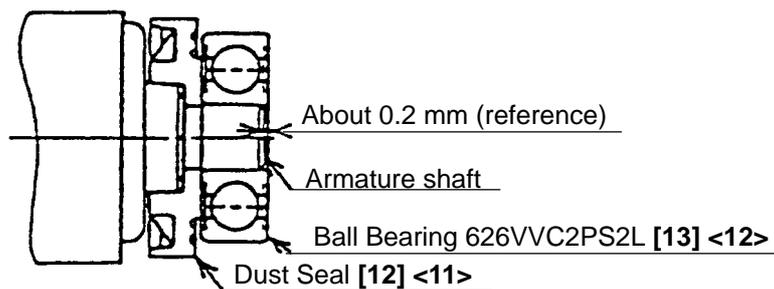

Fig. 3
- (1) Ensure that the terminals of the stator are not bent or otherwise damaged.
- (2) Generously lubricate the teeth of the gear and the pinion with grease. Rub grease onto the teeth with your fingers so that the grease reaches each tooth bottom. Note that the gear and the pinion may wear faster than normal if under-lubricated.
- (3) Be sure to soak the inner diameter of the Felt Packing [21] <20> with machine oil. Otherwise, its dust-sealing function will fail to work properly, resulting in earlier damage of the Ball Bearing 6201VVCMP2S2L [20] <19>.
- (4) When replacing the Armature [8] <7> and the Ball Bearing 626VVC2PS2L [13] <12> on the commutator side, press inward on the Dust Seal [12] <11> while taking care of its direction until the end face of the Dust Seal [12] <11> contacts against the end surface of the Armature [8] <7> and make sure that Dust Seal [12] <11> cannot be turned freely by hand. Keep the end face of the armature shaft approximately 0.2 mm (reference) distance inward of the end face of the Ball Bearing 626VVC2PS2L [13] <12> (see Fig. 3).